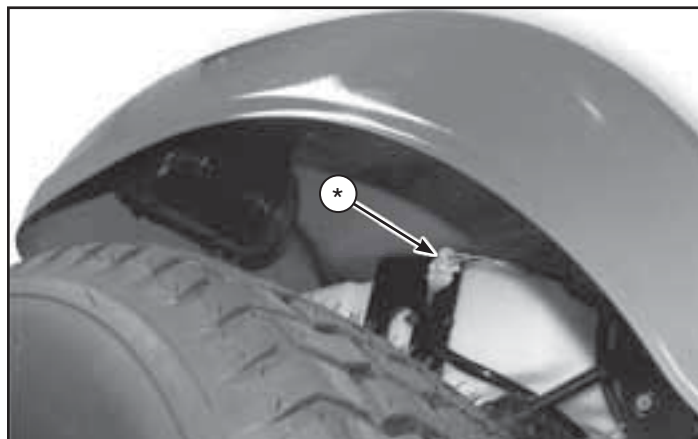

Figure 25
- Under right rear fender, locate and disconnect the electric height of cut motor plug (*, Figure 25).